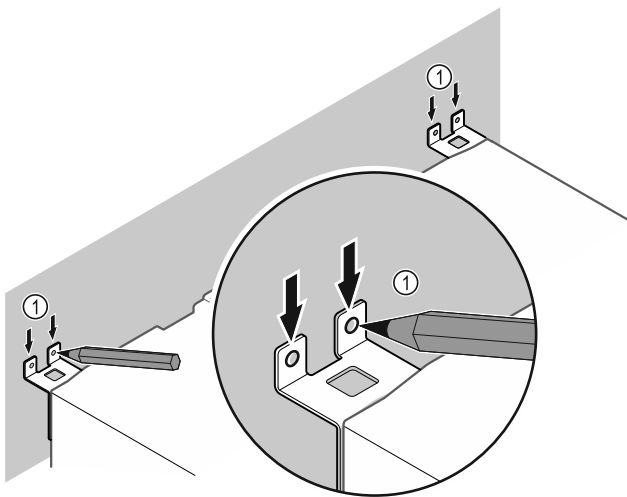

Fig. 9
- ▶ Make markings on the wall Fig. 9 (1).